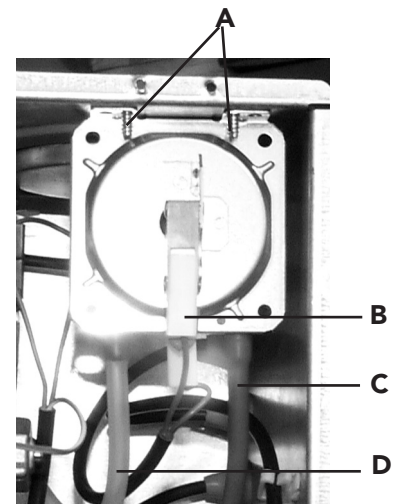

Fig. 31
7.05 Air pressure switch (fig. 31)
- Identify the location of thermostat from fig. 31